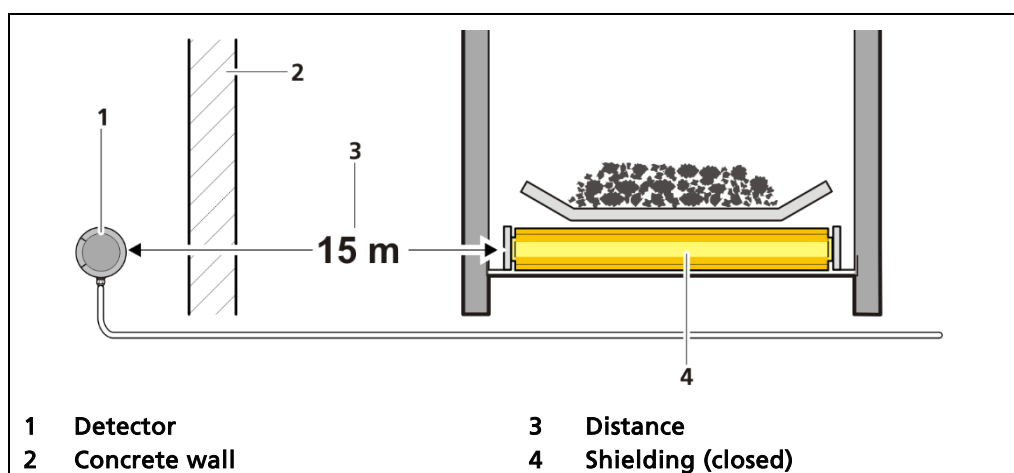

Fig. 83 Prerequisites for the determination of the background count rate
Even through closed shielding (Fig. 83, item 4) there will still be measurable residual radiation which can distort the measurement of the background radiation. We therefore recommend placing the detector (Fig. 83, item 1) at a suitable distance (approx. 10 m) or behind a thick concrete wall (Fig. 83, item 2) when determining the background count rate.